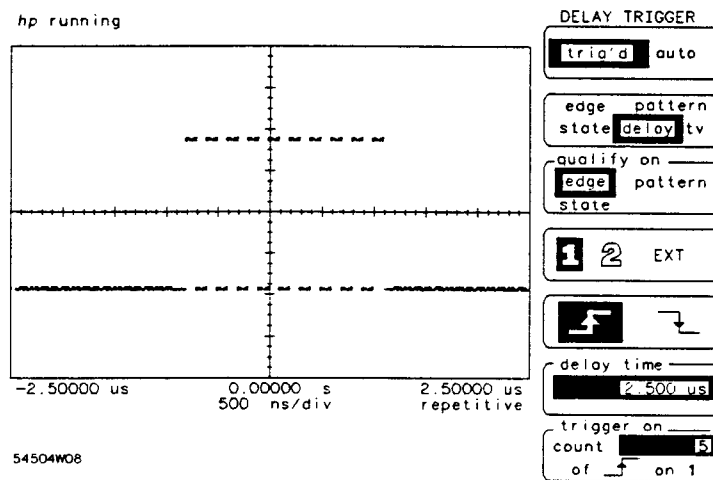

Figure 6-15. Ten Burst Pulse Triggered on Pulse 5
- Return to the trigger menu and set **trigger on count** to **5**. This tells the oscilloscope to trigger on the 5th rising edge of the next burst (see Figure 6-15).